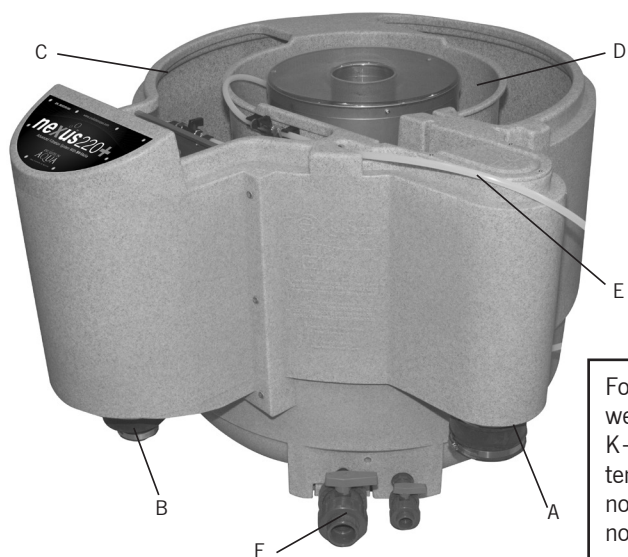

Figure 14.
1. Connect the pipework from your pond to the EasyConnector on the Nexus Inlet (A).
2. Connect your water pump to the 4" - 1½" EasyConnector (B) on the outlet using suitable pipe work. A valve should be positioned between the pump and the Nexus, to isolate the Nexus during cleaning.
3. Pour the 50L K+Media bag into the outside chamber (C) of the Nexus (Figure 14).
4. Connect your air pump to the Nexus air inlet (E).
6. Connect the waste valves (F) to your waste outlet.